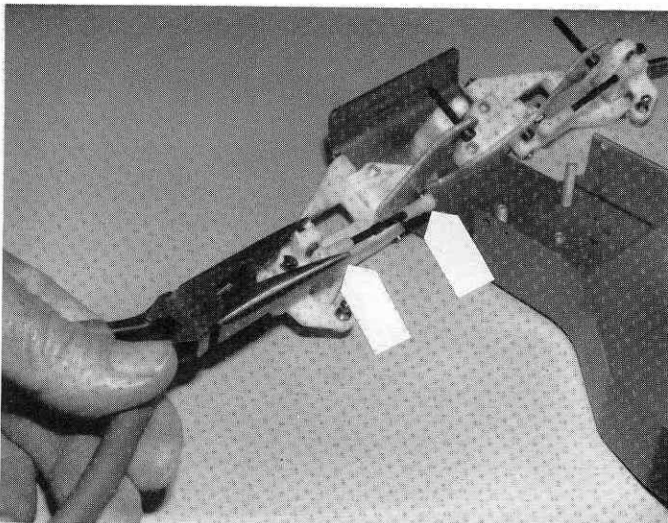

Fig. 18
□ **Fig. 18** Carefully snap the rods on the metal balls, as shown. You'll probably have to use pliers. Do the R.H. side.